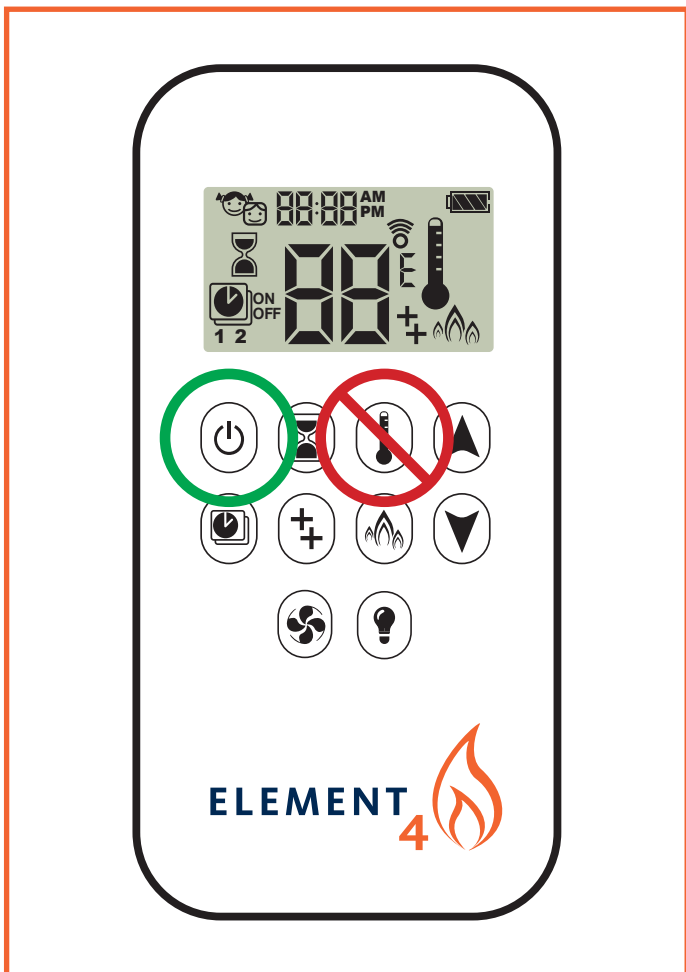

Figure 5.1 - Ten button remote Element4
**Figure 5.1** shows an example of a ten-button remote for Element4 fireplaces. The thermostat function (third button from the left) is cancelled.